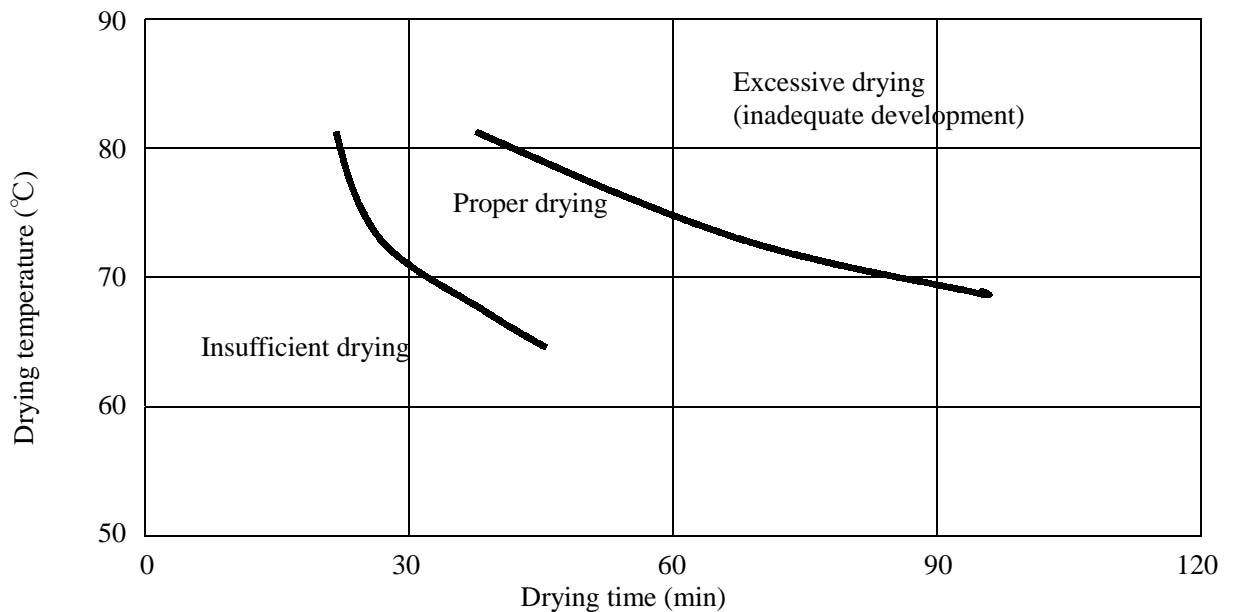

Fig.3 Pre-drying temperature, drying time and the dried condition of the film
- Fig.3 shows the interrelationship between pre-drying temperature, drying time and the dried condition of the film. (Using drying furnace).
- If the pre-drying of the resist is performed at about 75°C, the quality will be stabilized as the time range of appropriate drying is wide as shown in Fig.3. A circulation type drier having an ample amount of hot air will be the best for ease of drying.